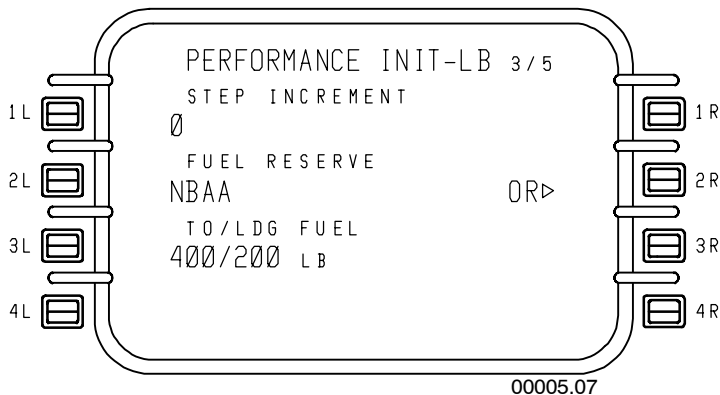

Figure 4-28
- **PERFORMANCE INIT 3/5** – Figure 4-28 contains the step climb increment that is used for performance planning, fuel reserve, and fuel allowance for takeoff and landing. TO/LDG FUEL powers up with the default values from the aircraft data base file. Entering *DELETE* restores any of these lines to the default values. The FUEL RESERVE line has an OR option. Refer to page 5-19 for additional details on this page.